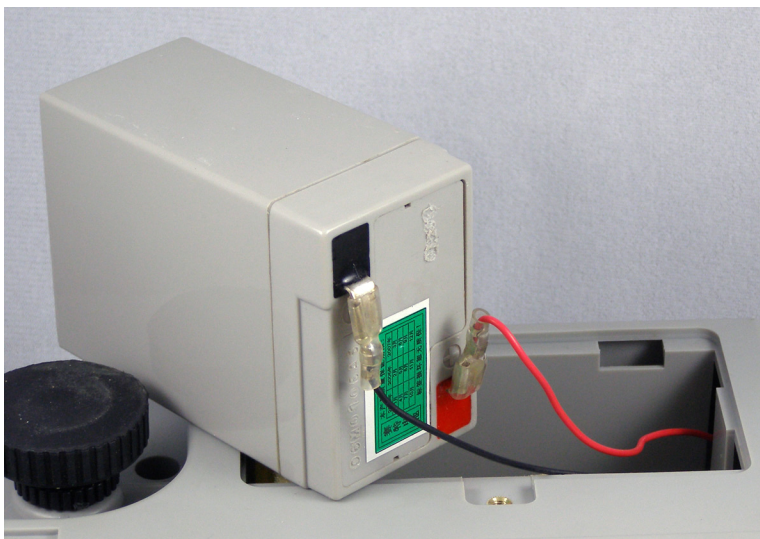

Figure 2.2 Connecting the battery
2. Connect the red wire to the red battery terminal and the black wire to the black battery terminal. See Figure 2.2.